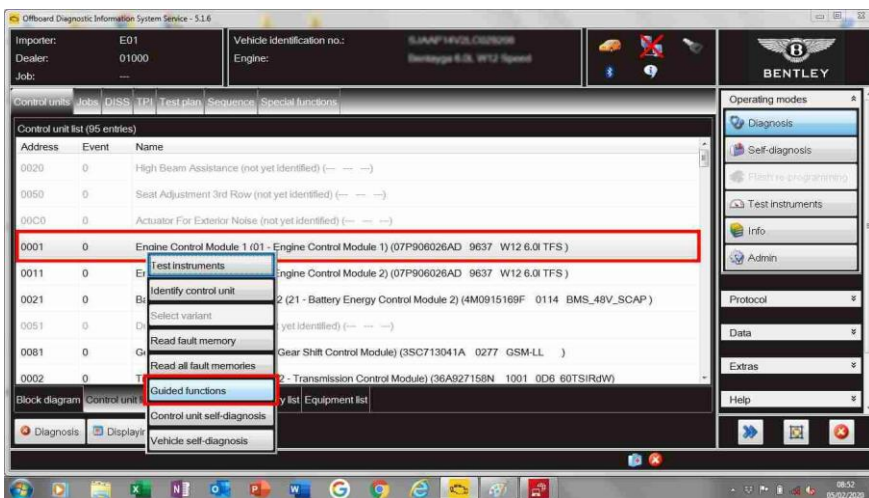

Figure 2.
- “Rightclick” on “Engine Control Module 1 (01–Engine Control Module 1)” and select “Guided functions” – Figure2.